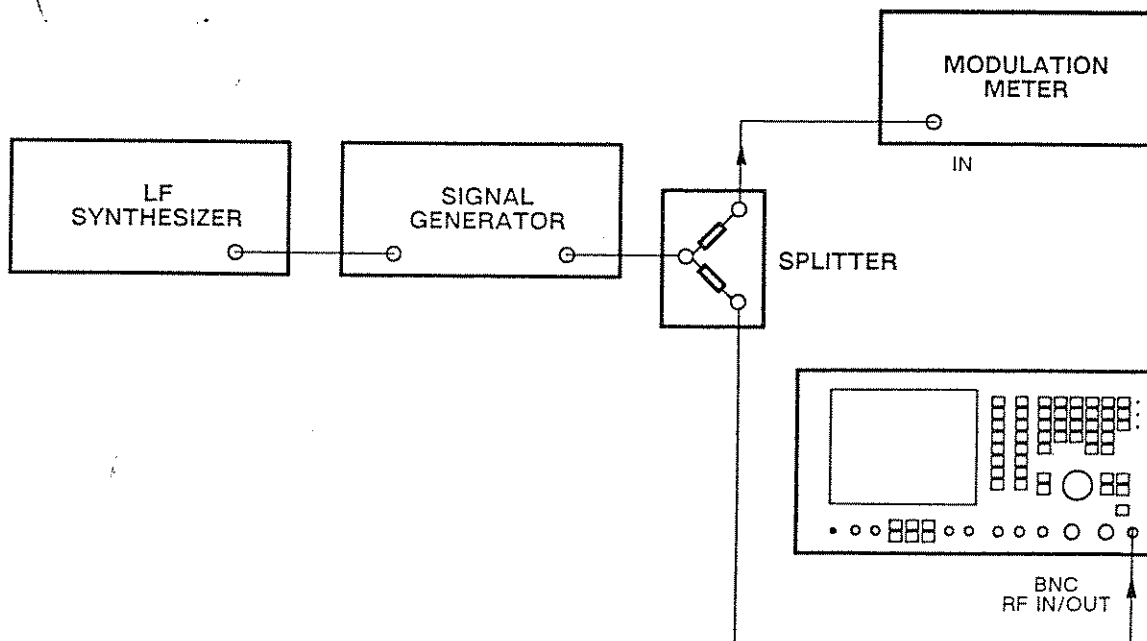

Fig. 6-5 Test equipment connections for modulation meter AM depth and FM deviation
- (3) Set the signal generator carrier frequency to 100 MHz, level to 7 dBm, 80% AM and 1 kHz internal modulating frequency.
- (4) Set the modulation meter to AM in a 0.3 to 3.4 kHz bandwidth.
- (5) Check that the MOD LEVEL is the same as the modulation meter reading $\pm 5\% \pm 1$ digit. Check that the AM bar chart indicates the AM being applied.
- (6) Repeat (3) and (5) for other modulation depths from 0 to 90% and other carrier frequencies between 1.5 and 100 MHz.
- (7) Repeat (3) and (5) for other modulation depths from 0 to 80% and other carrier frequencies between 1.5 and 400 MHz.
- (8) Connect the LF generator to the signal generator modulation input. See Fig. 6-5.
- (9) On the 2955B, set the FILTER to 15 kHz LOW PASS.
- (10) Set the signal generator carrier frequency to 100 MHz, level to 7 dBm and 80% external AM at a 10 kHz modulating frequency (from the LF generator).
- (11) Set the modulation meter to AM in a 30 Hz to 50 kHz bandwidth.
- (12) Set the synthesized LF generator to give a 10 kHz sinewave. Adjust the level to suit the external modulation input of the signal generator.
- (13) Check that the MOD LEVEL is the same as the modulation meter reading $\pm 8.5\% \pm 1$ digit.
- (14) Repeat (12) and (13) for other modulating frequencies between 50 Hz and 10 kHz.